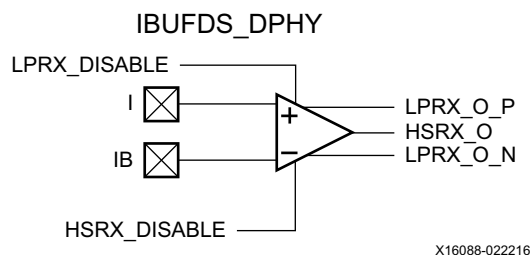

Figure 1-29: Differential Input Buffer Primitive (IBUFDS_DPHY)
The differential input buffer primitive (IBUFDS_DPHY) is only supported in the HP I/O banks in Virtex UltraScale+ devices (Figure 1-29), Kintex UltraScale+ devices, and Zynq UltraScale+ devices. This UltraScale architecture specific primitive is specifically meant for MIPI D-PHY receiver implementation. The HSRX_DISABLE port is used to enable or disable the MIPI D-PHY high-speed (HS) receiver. The LPRX_DISABLE port is used to enable or disable the low-power (LP) receiver. HSRX_O and LPRX_O(P/N) are inputs to the interconnect logic from the HS and LP receivers, respectively. The primitive only supports MIPI_DPHY_DCI as the value for the IOSTANDARD attribute.